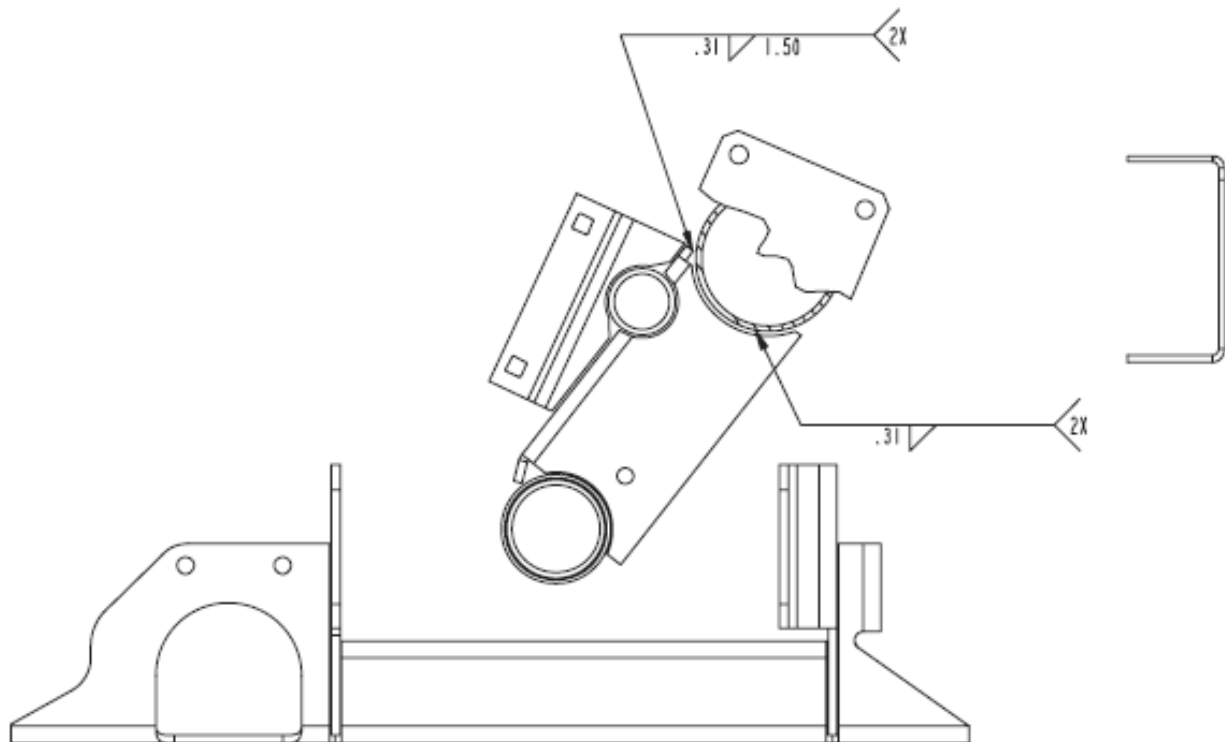

Figure 10
3. Weld the new drive shaft support to the support tube as shown in Figure 10.